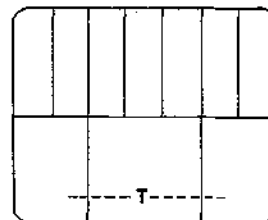

Fig. 5-7 On the TV screen
- 3) Depress the TRACKING button or on the Front panel until "T" mark can be seen in the center position as shown in Fig. 5-7.